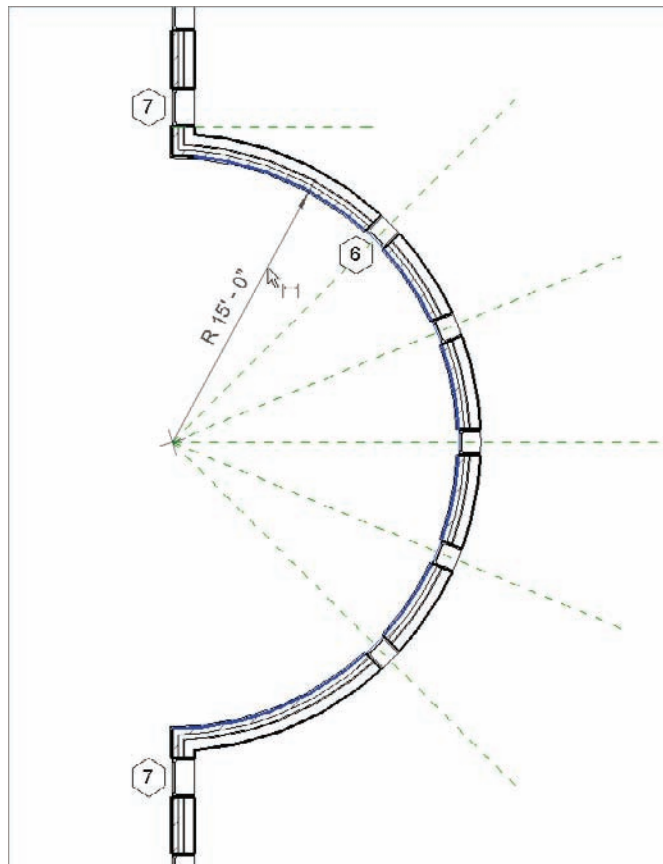

FIGURE 5.22 Adding the second Radial dimension
5. Pan all the way to the west radial end of the west wing, as shown in Figure 5.22.
7. Dimension to the finished outside face of the brick, and place your dimension in a location similar to that shown in Figure 5.22.